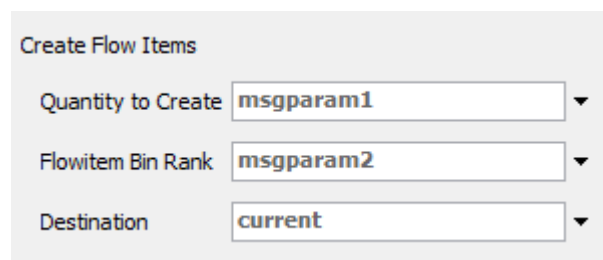

Fig. 6. *Create Flowitems* settings
2. **Create Flowitems** – allows you to generate a flow item. The number of items to create is given in the *Quantity to Create* field . The type of the flow item (*Flowitem Bin Rank*) is given as the next numeric value in the list of available items in *the Flowitem Bin* section. The place where the objects appear is determined by *Destination*. The values of these parameters must be related to the parameters of the received message (Fig. 6)